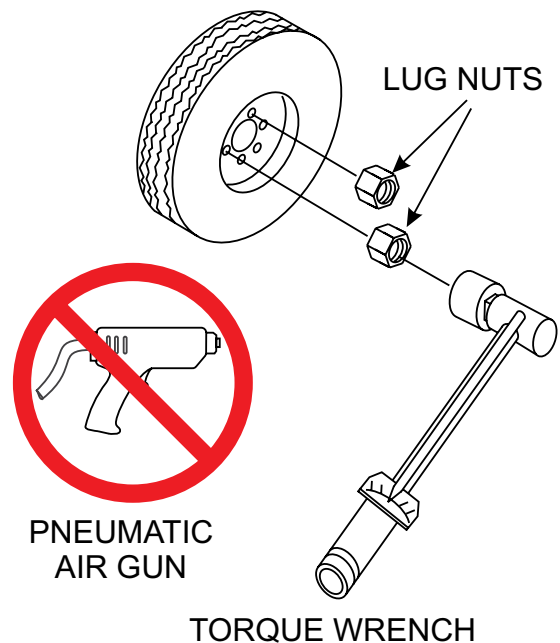

Figure 37. Wheel Lug Nuts Tightening Sequence
2. Torque all lug nuts in sequence. See Figure 37. **DO NOT** torque the wheel lug nuts all the way down. Tighten each lug nut in 3 separate passes as defined by Figure 37.